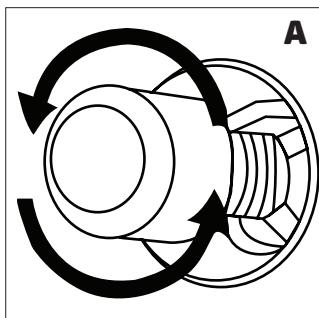
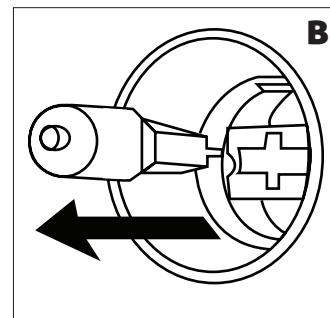

Figure 17
Figure 18
3. Then remove the oven lamp by turning it (See figure 17) if it is type A, or by pulling it (See figure 18) if it is type B.